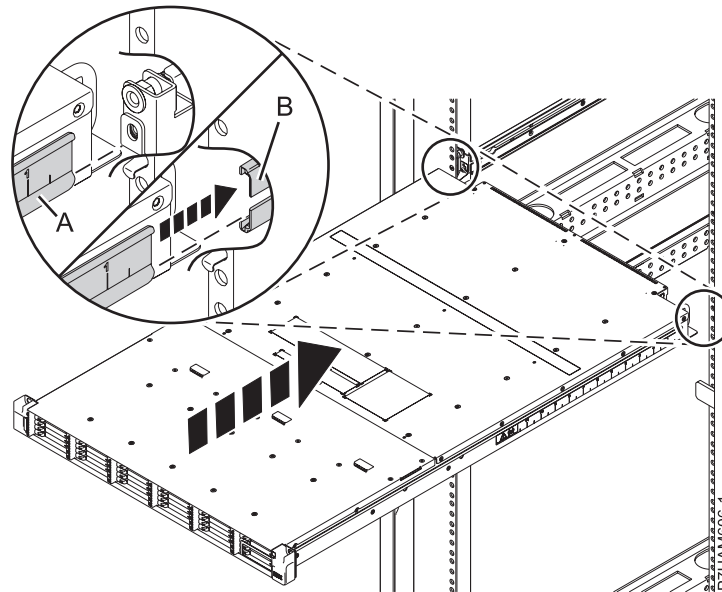

Figure 13. Fitting the enclosure into the rail sheath
- c. On one side of the enclosure, insert the chassis bracket guide (A) into the rail sheath (B) opening, as shown in Figure 13. Repeat this operation on the other side.